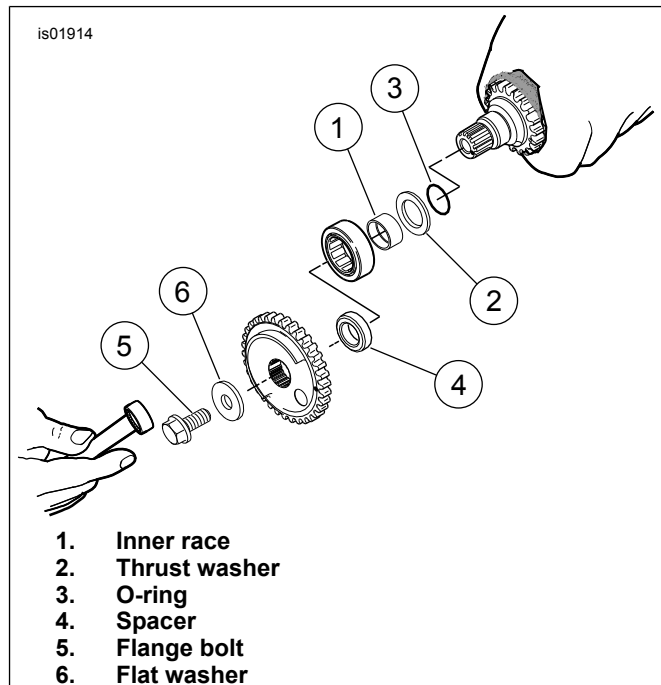

Figure 2. Install Bearing Inner Race with O-ring and Thrust Washer using Cam Drive Sprocket
See Figure 2. If not enough of the splined shaft is exposed to install the sprocket, omit the spacer (4) and proceed to Step 2e. When the bearing inner race is started onto the machined area, remove the flange bolt (5), flat washer (6) and sprocket, then assemble using the spacer (4). Repeat Step 2e to fully install bearing inner race.
- a. See Figure 2. To properly locate the thrust washer (2), install the O-ring (3) in the grinding relief groove on the splined end of the rear camshaft between the machined area and the secondary cam sprocket. Do not stretch or break the O-ring as the O-ring **is not sold separately**, and damage will require purchase of a new Rear Cam Roller Bearing Kit.
- c. Slide the bearing inner race (1) down the rear camshaft until contact is made with the shoulder of the machined area.
- d. Install the primary cam sprocket spacer (4) and sprocket on the camshaft, and secure using the thicker flat washer (6) and long flange bolt (5) from the Drive Gear Retention Kit (Part No. 25533-99A, purchased separately).
- e. Wrap a clean shop rag around the camshaft to get a firm grip and also to protect your hand from the sharp edges of the sprocket. Tighten the flange bolt until the bearing inner race makes firm contact with the thrust washer (2).